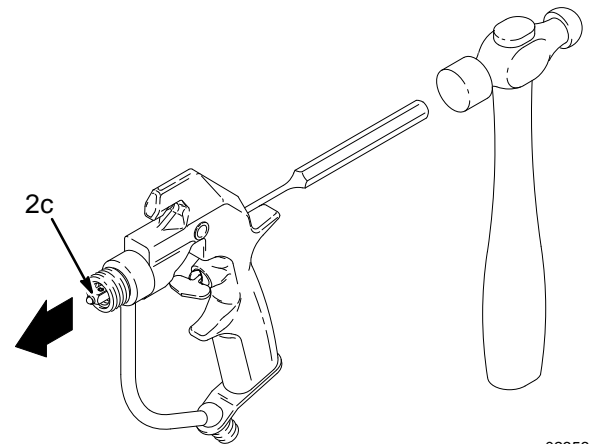

Fig. 7
4. Insert a punch into the rear of the gun and tap it to push the needle (2c*) out the front of the gun. See Fig. 7.